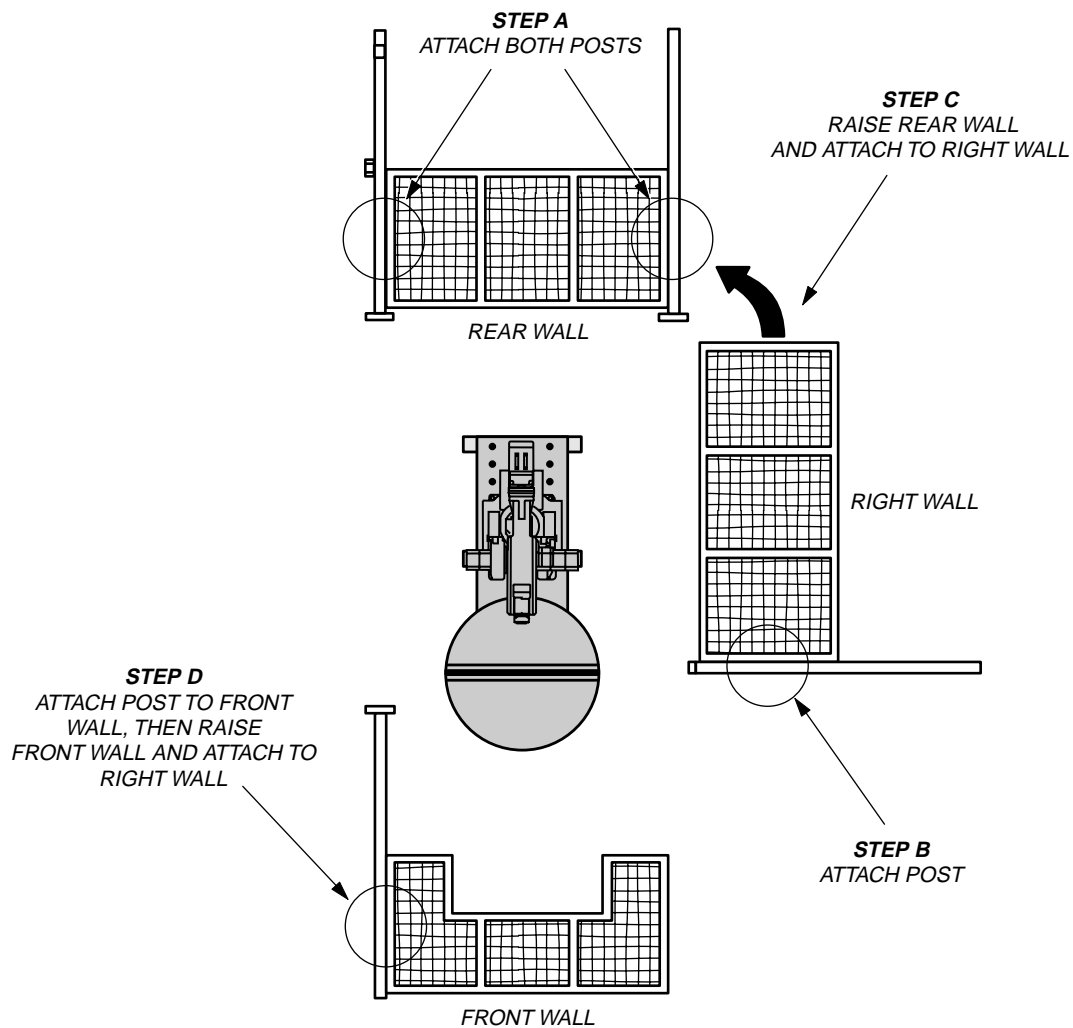

Figure 4-8 Assembling the Fence Walls
- Place fence components on floor around robot/positioner (see Figure 4-8).